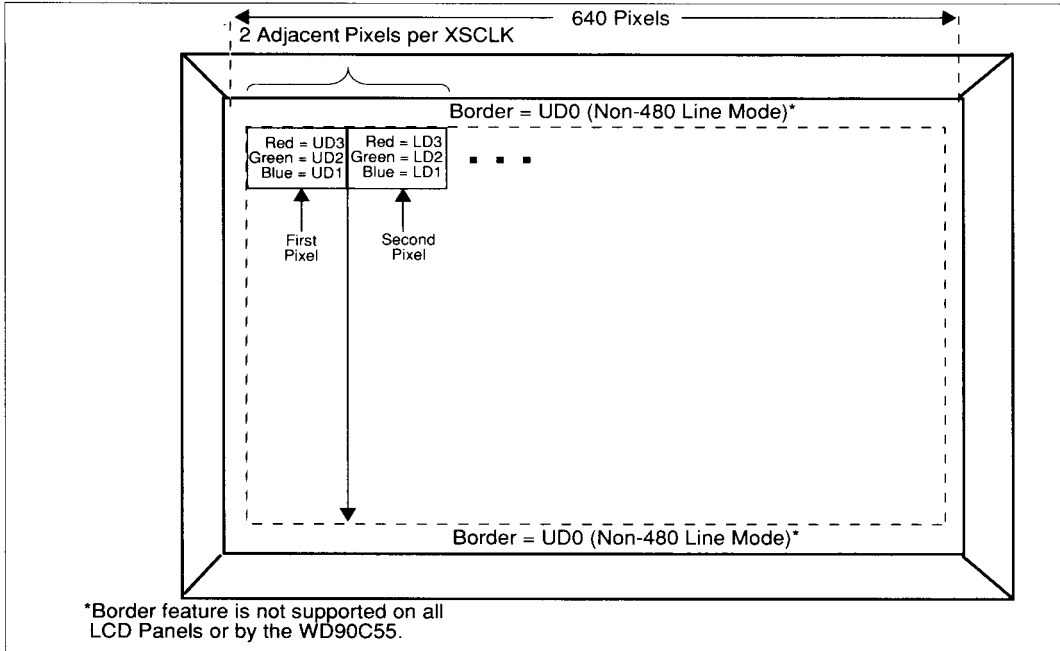

FIGURE 6-24 SINGLE-PANEL MULTIPLEXED STN COLOR LCD DATA ORGANIZATION (BEFORE WD90C55 8/16 BIT STN INTERFACE CONVERSION)
- Single-panel Multiplexed STN Color LCD Data Organization (Figure 6-24)